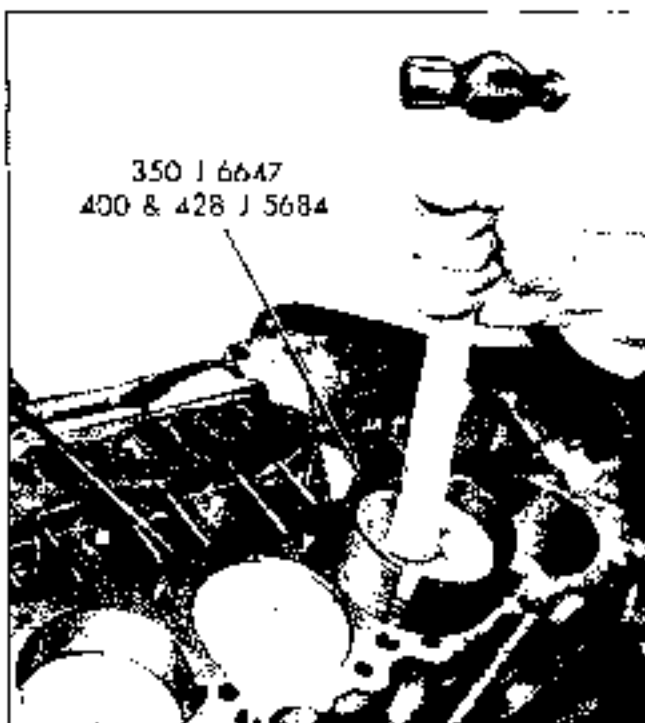
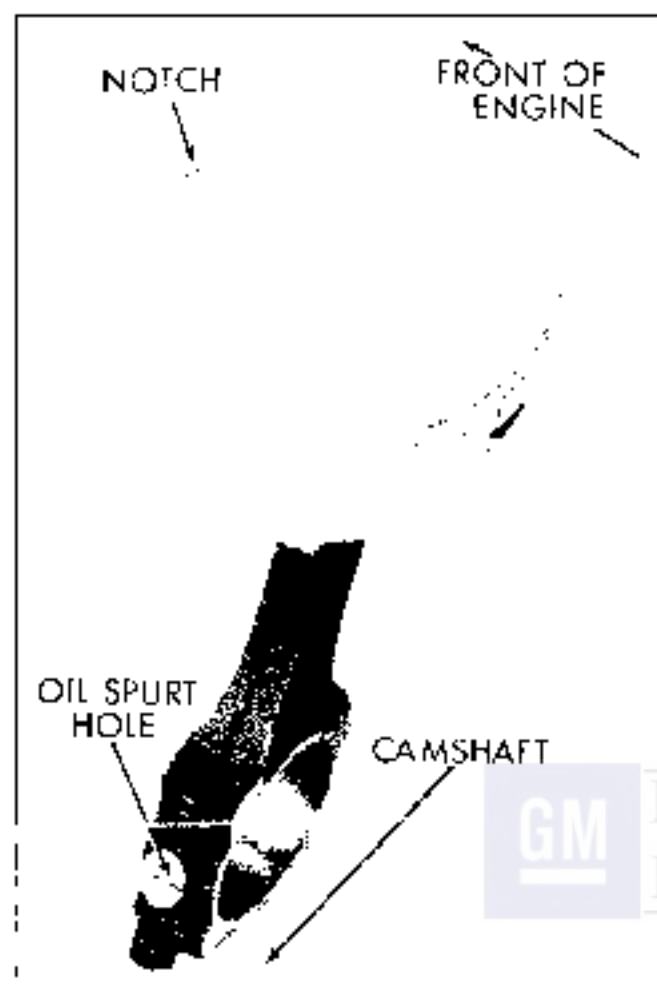

Fig. 6-114 Installing Piston Assembly
Fig. 6-121 Piston and Rod Assembly
2. Using J 6647 or J 5684 (Fig. 6-114) ring compressor, insert piston and connecting rod assembly into cylinder so that notch in top of piston is toward front of engine. Be certain oil squirt hole (Fig. 6-121) in connecting rod is toward camshaft.
There is a notch cast in the top of all piston heads to facilitate proper installation. The piston assemblies should always be installed with notch toward front of engine. Position rod in piston so that oil squirt hole (Fig. 6-121) is toward camshaft.